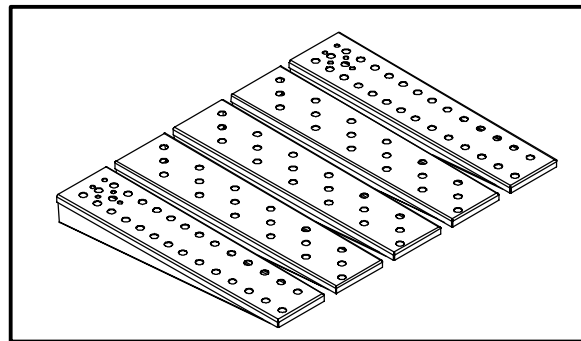

Figure 16
*NOTE: Install the nozzles in the order shown in Figure 16.*